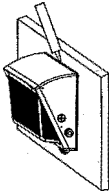

Fig. 20
16. Fill the silicone sealant to the gap between fixture and wall-surface, where the fixture attached. (Silicone sealant must be prepared by yourself). (Fig. 20)